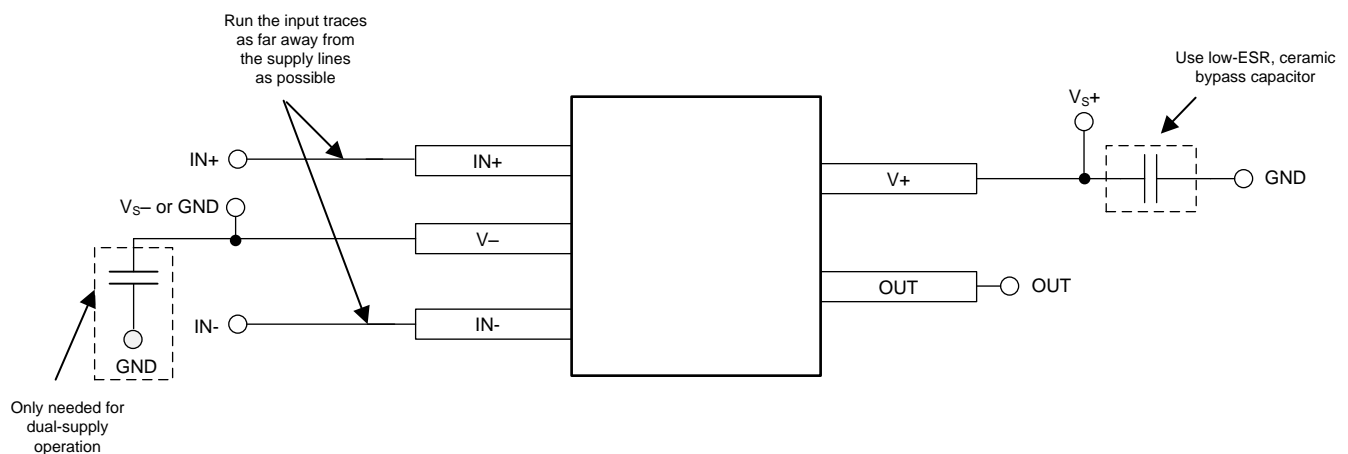

Figure 12. Comparator Board Layout
- To minimize supply noise, place a decoupling capacitor (0.1- $\mu$ F ceramic, surface-mount capacitor) as close as possible to  $V_S$  as shown in Figure 12.